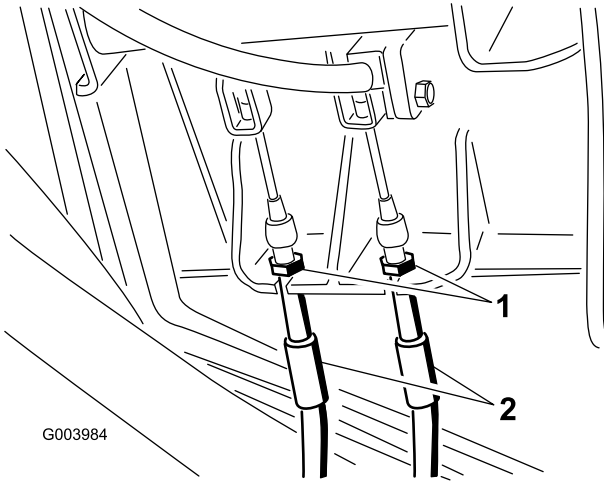

Figure 73
1. To reduce free travel of the brake pedals, tighten the brakes by loosening the front nut on the threaded end of the brake cable (Figure 73).